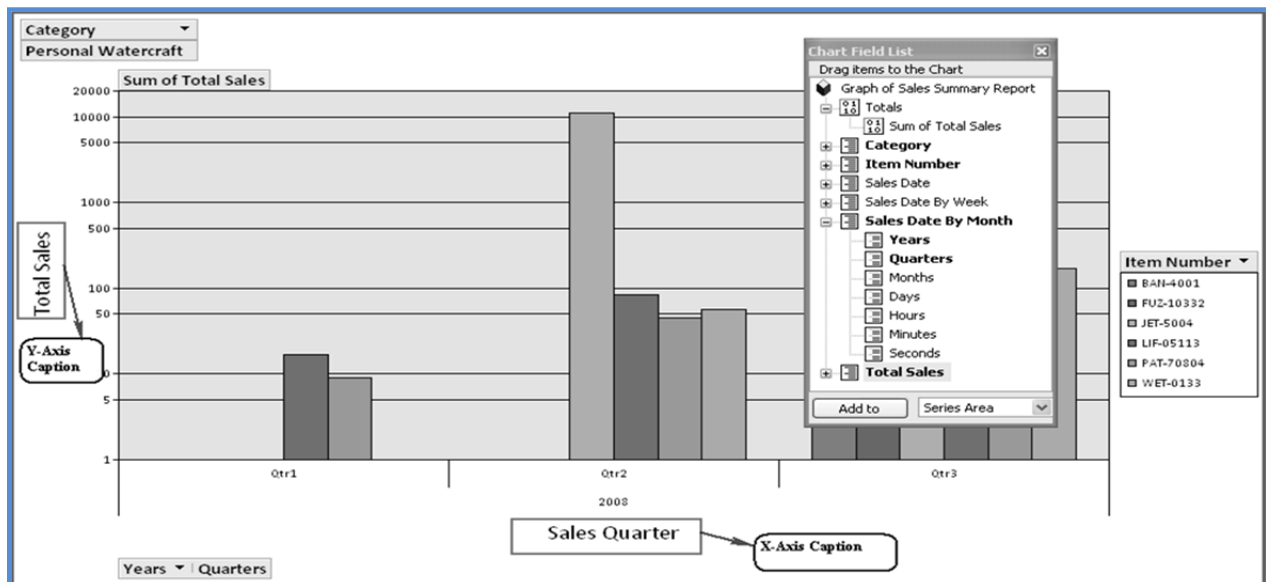

Fig. 1.2.71: Pivot Chart with Axis Captions
3. In a similar manner, change the caption of Y-Axis to *Total Sales*. The *PivotChart* appears as in Fig. 1.2.71.